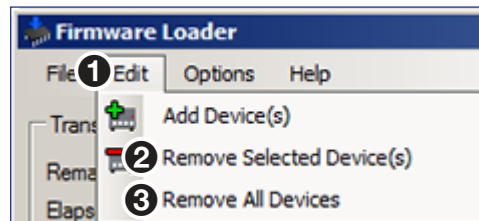

Figure 24. Firmware Loader Edit Menu
- b. From the **Edit** menu (see figure 24, ①), select **Remove Selected Device(s)** (②).